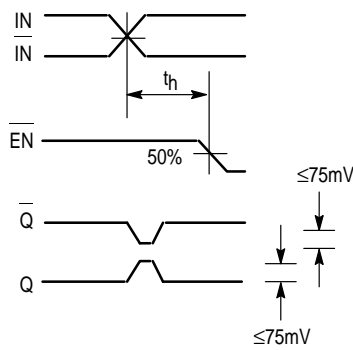

Figure 2. Hold Time
6. The hold time is the minimum time that EN must remain asserted after a negative going IN or a positive going IN to prevent an output response greater than ±75 mV to that IN/IN transition (see Figure 2).